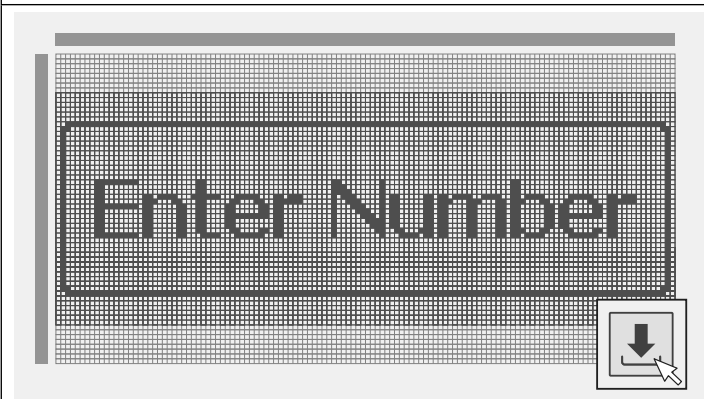

Fig. 91
3. Next click on the download icon and the default home (welcome) screen from the **Digital GSM** will be downloaded and appear in the main editing area, as shown in **Fig.91**.